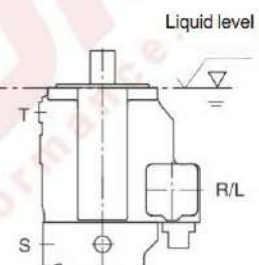

Figure 1
- When the minimum level in the tank is as same as or larger than the height of the flange face of the pump, port R/L, T and S can be open (see Figure 1)